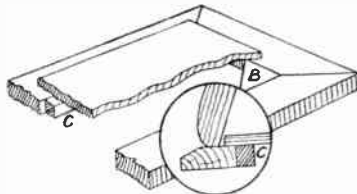

Fig. 1—Floor construction
Fig. 1. The latter consists of four mitred strips, given full size on the pattern page. Mark these out on to the  $\frac{1}{4}$  in. or  $\frac{3}{8}$  in. wood and cut them in the usual way with the fretsaw.
The four pieces are glued together, and the inside angles may be further strengthened by adding four glued angle blocks as seen at (B) in Fig. 1. On this open
frame will be glued the  $\frac{1}{4}$  in. thick floor measuring  $6\frac{1}{2}$  ins. by  $2\frac{1}{2}$  ins. This is seen in Fig. 1 as a sectional diagram and shows how the piece must have an equal margin each side and each end of the mitred base strips so as to allow the sides and ends of the box, when made up, to stand evenly all round.
The enlarged circled diagram in Fig. 1 shows, by section, how one end of the box will appear when it is glued to the base and in relation to the floor piece. Small square glued blocks about  $\frac{1}{4}$  in. in section and cut from spare wood may be added beneath the floor as seen at (C) in Fig. 1.